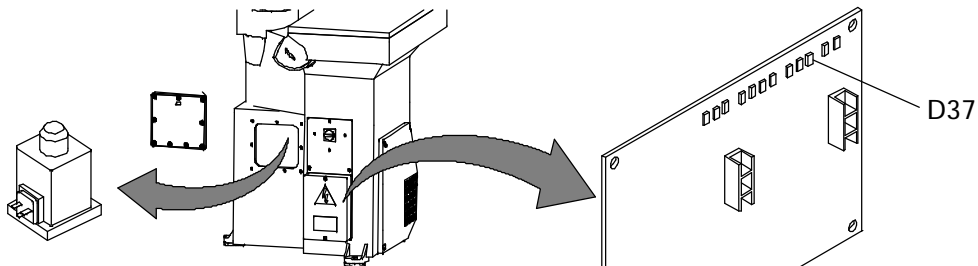

Fig. 23
b) If the leds D25 and D28 light up regularly, check the lighting up of the led D37 on the printed circuit board (code 02E03947, tav. 7). If the led D37 lights up regularly, check the wiring between the electromagnet and the printed circuit board as well as the electromagnet (02001746, tav. 4-5-6). Check the correct voltage of 40/45V arrives at the electromagnet (Fig. 23).